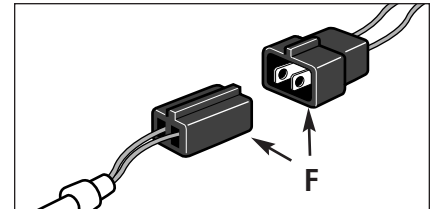

Fig. 6
3. For 6HP Tecumseh Engines: If the engine has a black plastic terminal (F, Fig. 6) on the recharging line, pull the terminals apart. Then proceed to Step C, "Installing the Bumper" on page 4.
7. For 6HP Tecumseh Engines: Reconnect the black plastic terminals (F, Fig. 6). Make sure that the terminals fit together securely. Your installation is now complete. Reconnect the ground (negative [-]) cable to the battery.